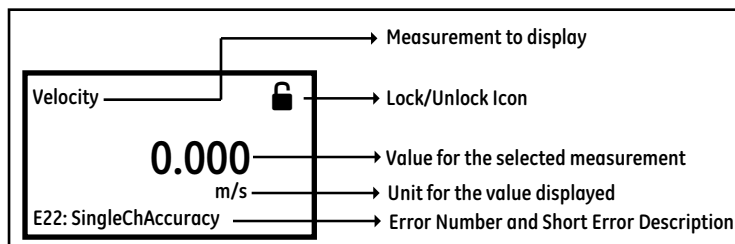

Figure 14: Measurement View
After power up, if the meter's *Measurement View* (Refer Figure 14) shows a lock icon on the top right of the display, use the following steps to unlock the meter from keypad lockout mode.
- Finally, the *Measurement View* (Refer Figure 14)
This screen (Refer Figure 14) will be referred to as "*Measurement View*" throughout this chapter. User can choose the measurement to be displayed in this view from a list of options. The Error indicator at the bottom left of the display will be blank if the meter has no error.